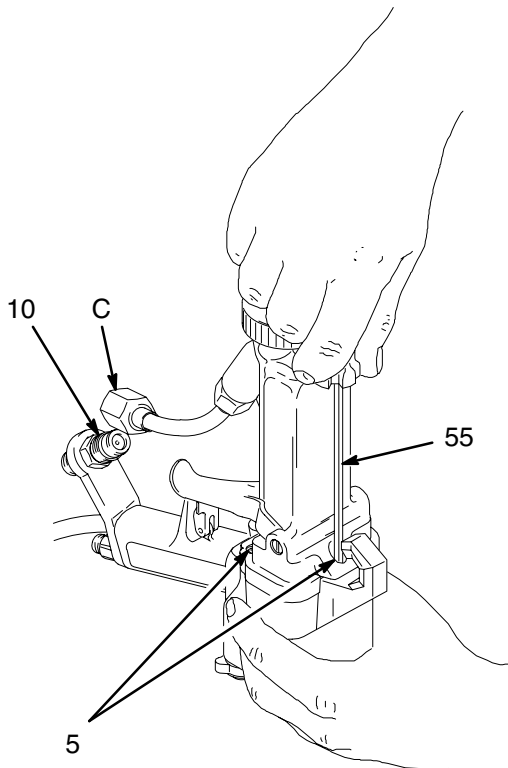

Fig. 12
2. Disconnect the bottom fluid tube nut (C). See Fig. 12.